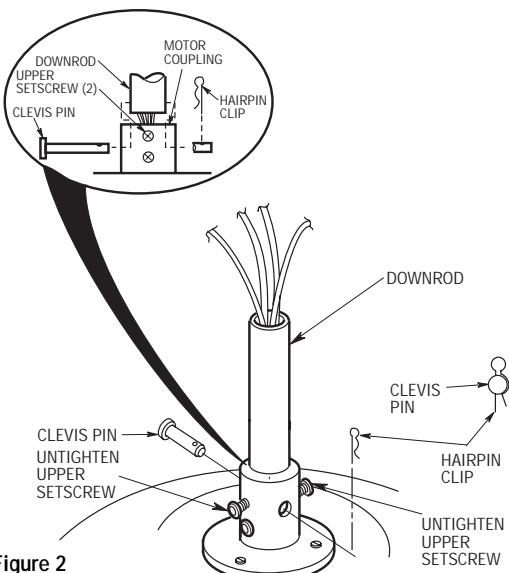

Figure 2
- 2. Unscrew the two upper setscrews (Figure 2) until they clear the inside of the motor coupling. Then separate, untwist and unkink the three 80" motor leads. Route the motor lead wires through the downrod. Align the clevis pin holes in the downrod with the holes in the motor coupling. Install the clevis pin and secure with the hairpin clip (Figure 2). The clevis pin must go through the holes in the motor coupling and the holes in the downrod. Be sure to push the straight leg of the hairpin clip through the hole near the end of the clevis pin until the curved portion of the hairpin clip snaps around the clevis pin. The hairpin clip must be properly installed to prevent the clevis pin from working loose. Pull on the downrod to make sure the clevis pin is properly installed.
<p>It is critical that the clevis pin in the motor coupling is properly installed and the setscrews are securely tightened. Failure to verify that the pin and setscrews are properly installed (as shown in Figures 2 & 3) could result in the fan falling.</p>
- 3. Tighten the two upper setscrews (Figure 2) securely while pulling up on the downrod.